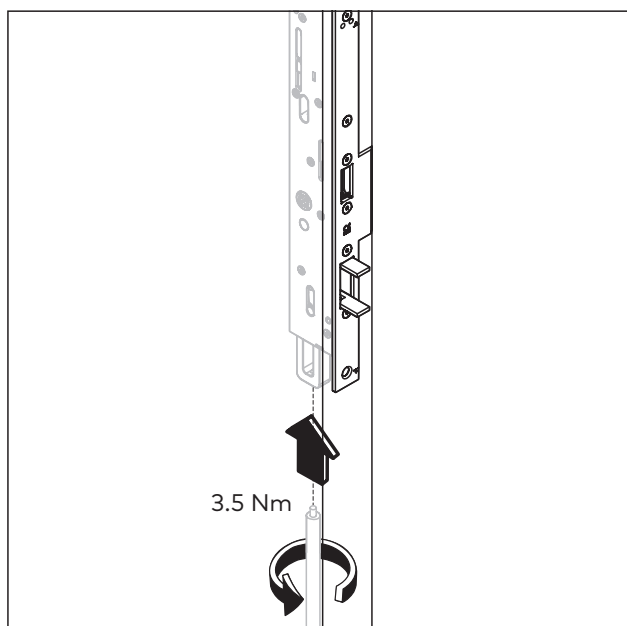

Fig. 48 Screw in lower espagnolette bolt
10. Insert the lower espagnolette bolt into the passive door leaf and screw it into the lock with 3.5 Nm (Fig. 48).